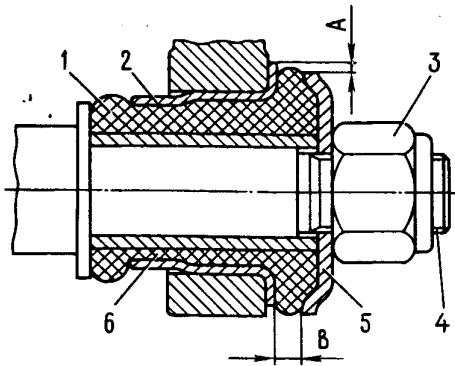

Fig. 4-2. Examining Front Suspension Wishbone Silent Block:
- measure radial displacement A (Fig. 4-2) of outer bushing 2 relative to inner bushing 6 and distance B between thrust washer 5 and the outer face of outer bushing 2.